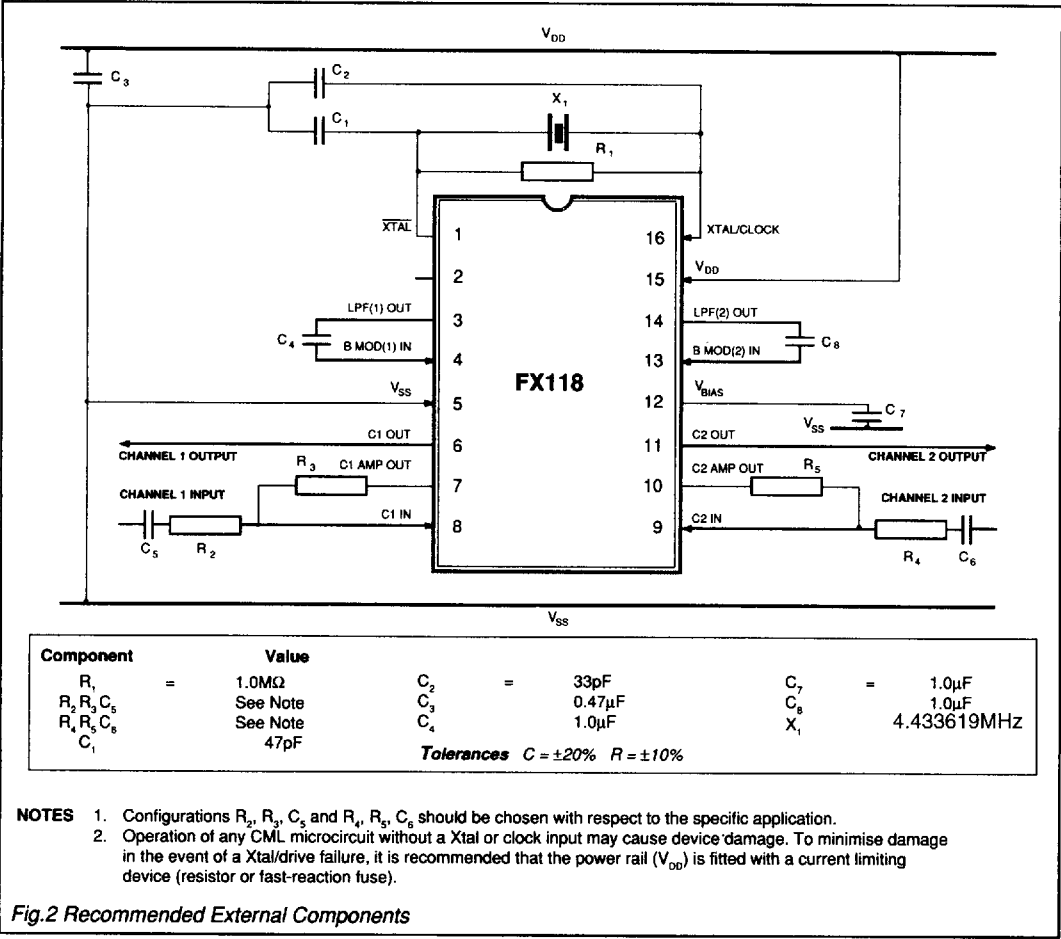

Fig.2 Recommended External Components
3	LPF(1) Out: The output of the Channel 1 Lowpass Filter. It is to be coupled to "B Mod(1) In" via a 1.0 μ F capacitor – see Figure 2.
4	B Mod(1) In: The input to Channel 1 balanced modulator. Internally biased at $V_{DD}/2$ it is to be coupled to "LPF(1)" via a 1.0 μ F capacitor – see Figure 2.
7	C1 Amp Output: Channel 1 amplifier with external components (see Figure 2) can be used to provide gain in the signal path.
8	C1 In: The negative input of Channel 1 Amplifier. Recommended external components are shown in Figure 2.
9	C2 In: The negative input of Channel 2 Amplifier. Recommended external components are shown in Figure 2.
10	C2 Amp Output: Channel 2 amplifier with external components (see Figure 2) can be used to provide gain in the signal path.
12	V_{BIAS}: The internal analogue bias line at $V_{DD}/2$. It should be decoupled to V_{ss} via a 1.0 μ F or greater capacitor. See Figure 2.
13	B Mod(2) In: The input to Channel 2 balanced modulator. Internally biased at $V_{DD}/2$ it is to be coupled to "LPF(2)" via a 1.0 μ F capacitor – see Figure 2.
14	LPF(2) Out: The output of the Channel 2 Lowpass Filter. It is to be coupled to "B Mod(2) In" via a 1.0 μ F capacitor – see Figure 2.
16	Xtal/Clock: 4.433619 MHz Xtal or externally derived clock is injected at this pin. See Figure 2. Operation of the FX118 without a Xtal or clock input may cause device damage.